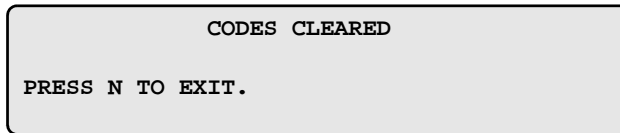

Figure 12-38 Sample ABS codes cleared message
3. When the test finishes a codes cleared screen displays (Figure 12-38).